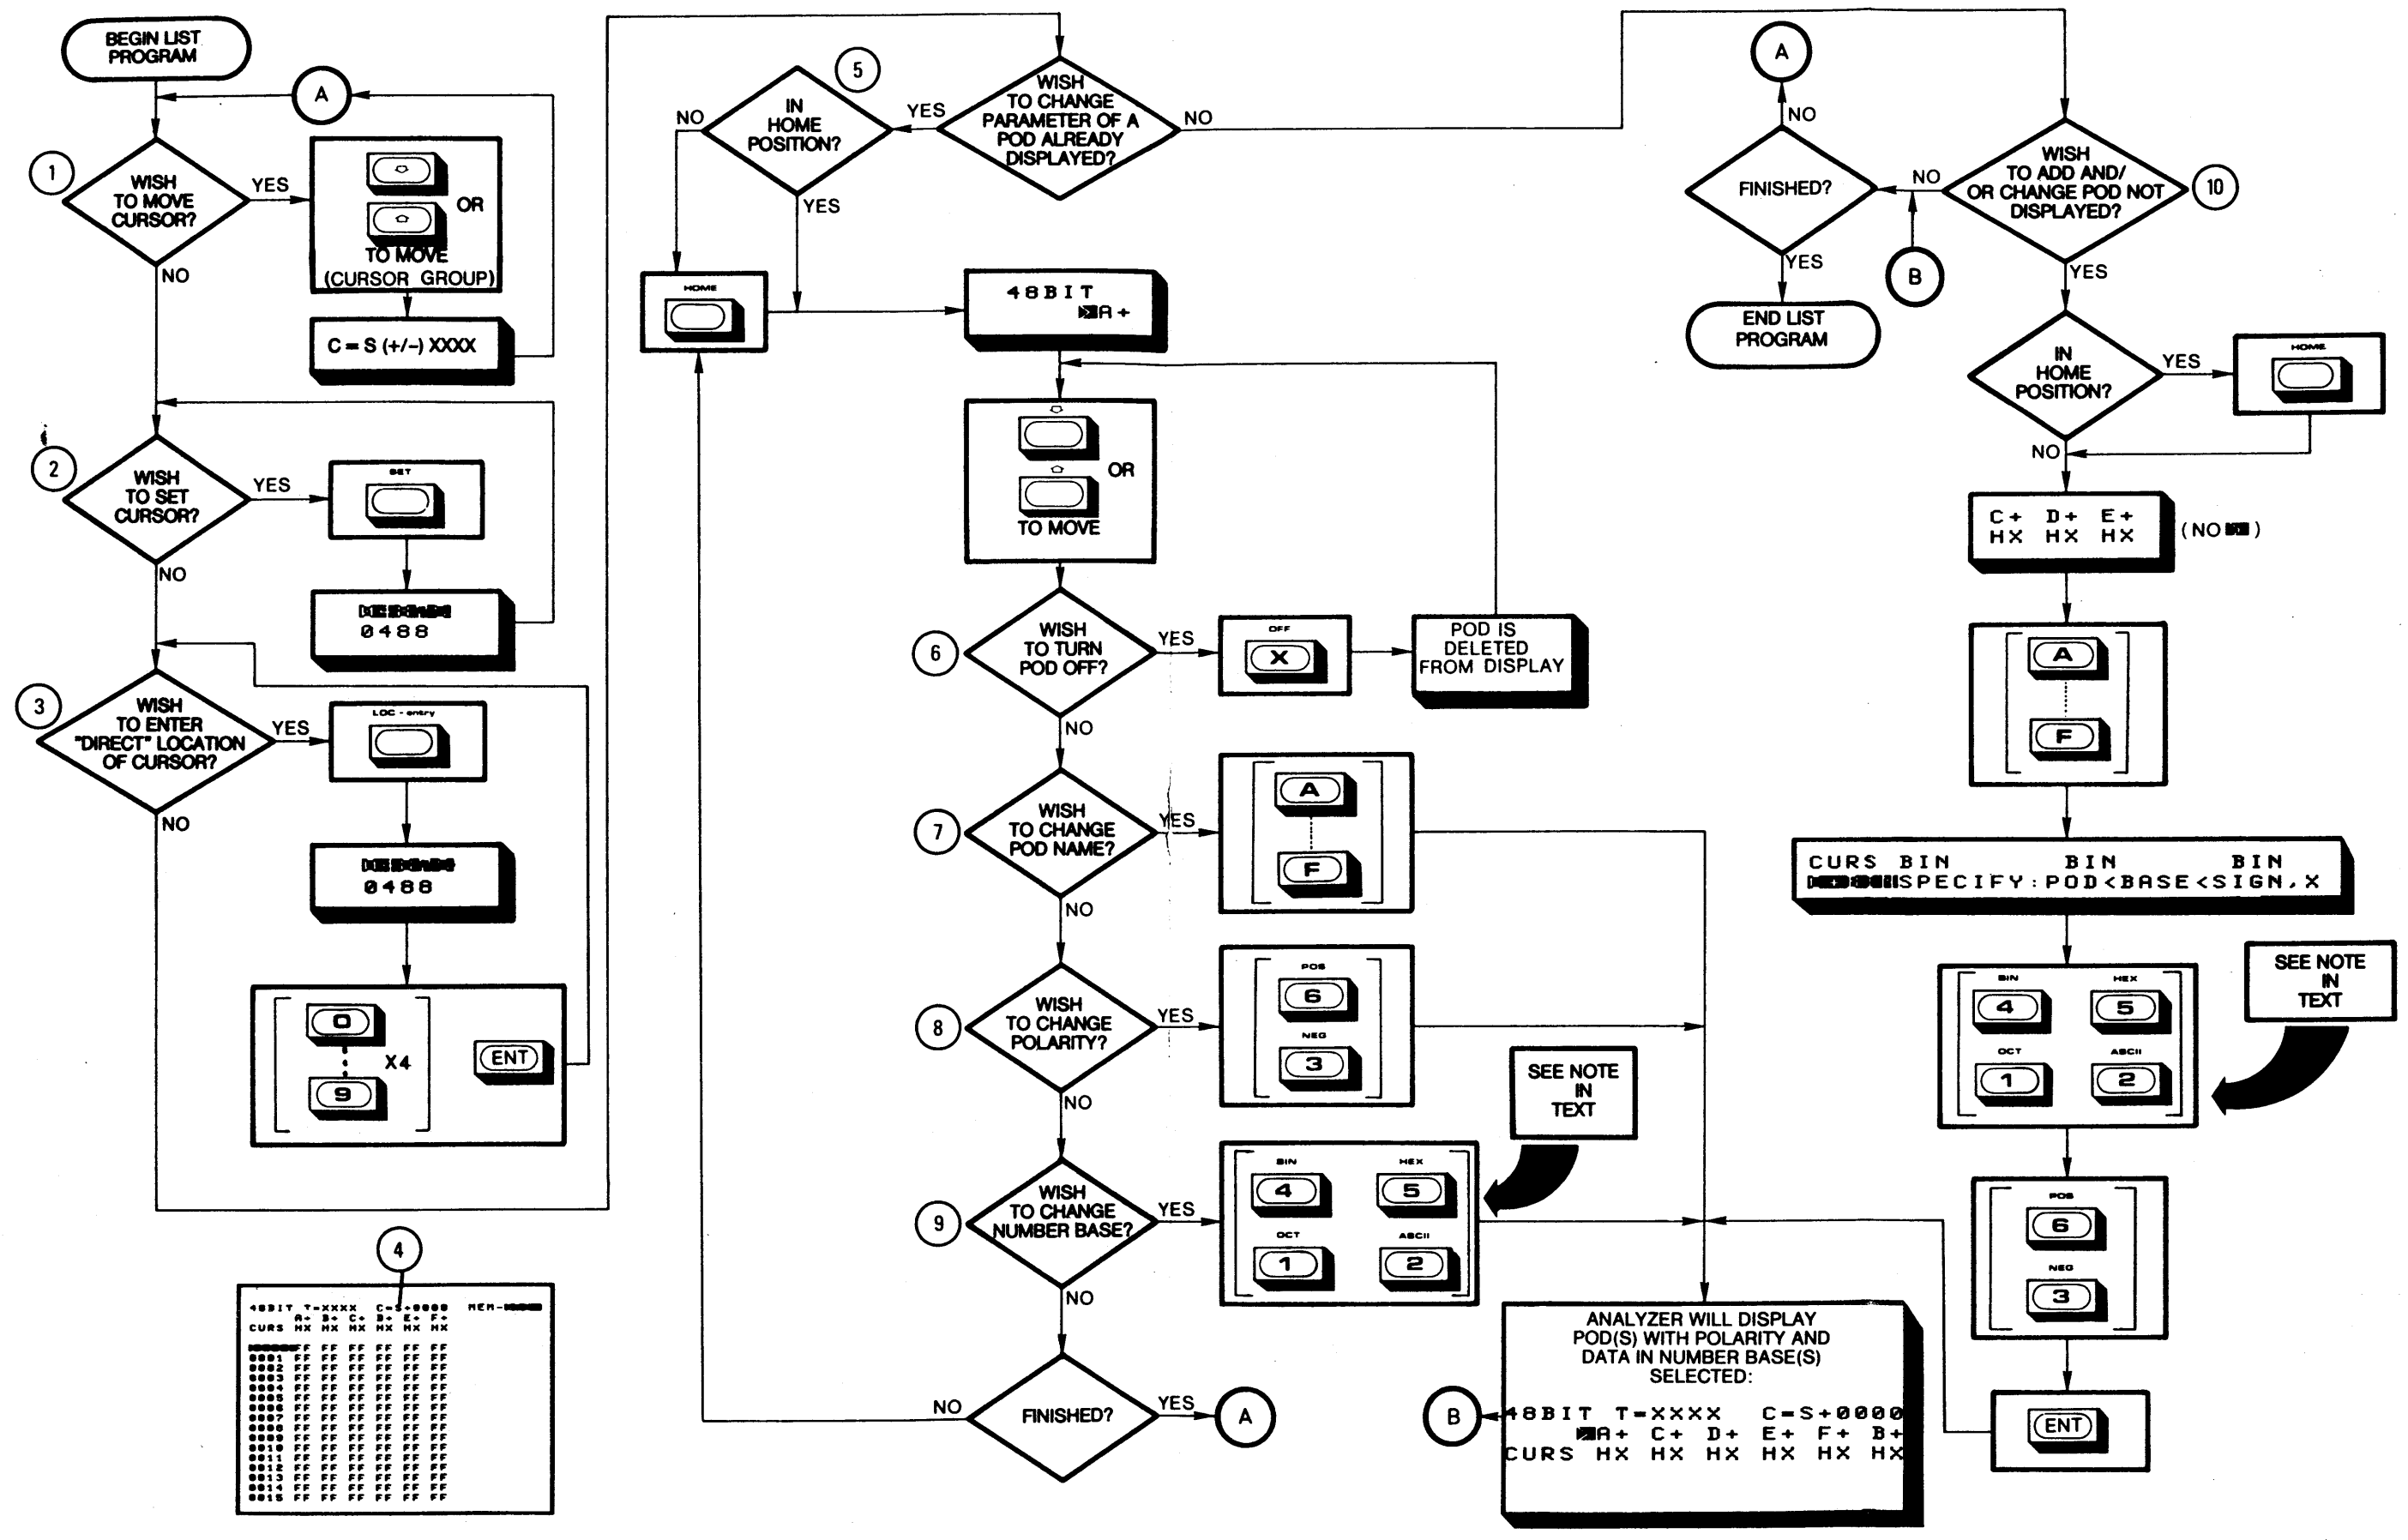

FIGURE 5-36. LIST DISPLAY OPERATION
The LIST DISPLAY primarily shows the data recorded at each memory location of all line channels in numerical form. It also provides control over the analyzer memory and search functions. These are covered in separate sections under their respective titles. Refer to Figure 5-36 in the following explanation of the LIST DISPLAY operation. Circle numbers in the figure are keyed to the text in this section. The LIST DISPLAY provides these controls:
Cursor movement is shown in Figure 5-36. Circle number ① shows that the cursor can be moved up or down on the monitor with the Keyboard CURSOR group pushbuttons. Circle number ② shows how to position the "Set" point. Number ③ illustrates how to directly enter the location desired for the cursor.
As with the TIMING DIAGRAM, it is sometimes helpful to view the LIST DISPLAY in a way that it is not normally presented. For instance, the user may wish to delete Pods, change the number base, etc. It is possible to make such changes to Pod groups that are already displayed on the monitor (not previously changed). Number keys to Figure 5-36 that show procedures and the changes possible are as follows: